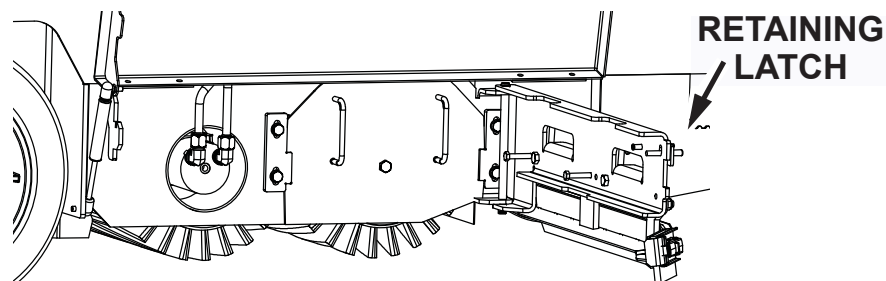

Fig. 4
5. Release the retaining latch at the rear of the side squeegee mount and swing the side squeegee mount open. (See Fig. 4)